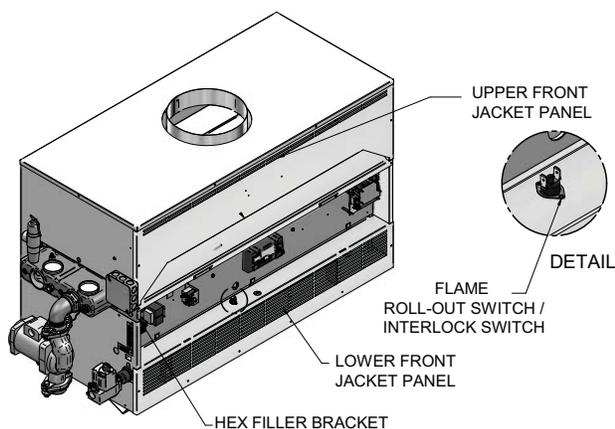

Figure 8-2_ Outer Air Deflector and HEX Filler Bracket
- d. Remove the outer air deflector (FIG. 8-2).
- g. Disconnect the wiring from the flame rollout/interlock switch, see FIG. 8-2, page 59.
- r. Remove the heat exchanger (HEX) filler bracket (FIG. 8-2).